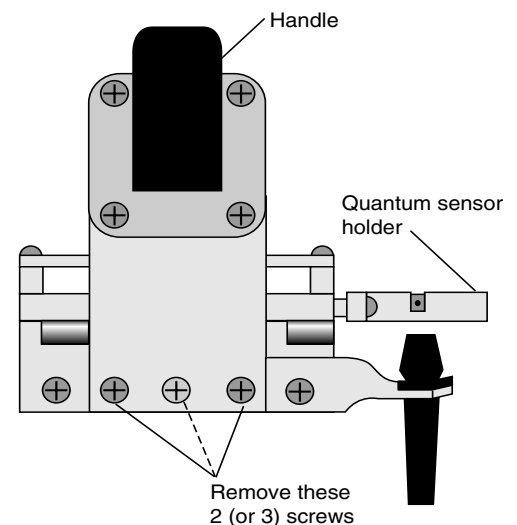

Figure 2. Remove the 2 (or 3) screws on the back of the handle.
5. Remove the 2 (older units have 3) screws on the backside of the handle (Figure 2) using a #1 Phillips head screwdriver.